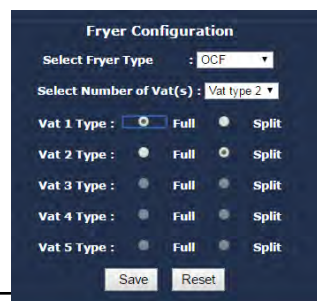
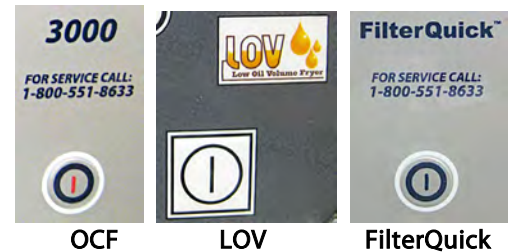

Figure 14
Figure 15
middle of the screen select the fryer type from the pull down menu (see Figure 14). Choose OCF, LOV or FilterQuick. The OCF will display 3000 on the controller; The LOV will display LOV on the controller (see Figure 15).
28. Select the number of vats from the pull down menu (see Figure 14).
29. Select the vat type of each vat either Full or Split (see Figure 14). The Split frypot has a divider down the middle (see Figure 16).
30. When the vat types are complete Click on Save (see Figure 14).